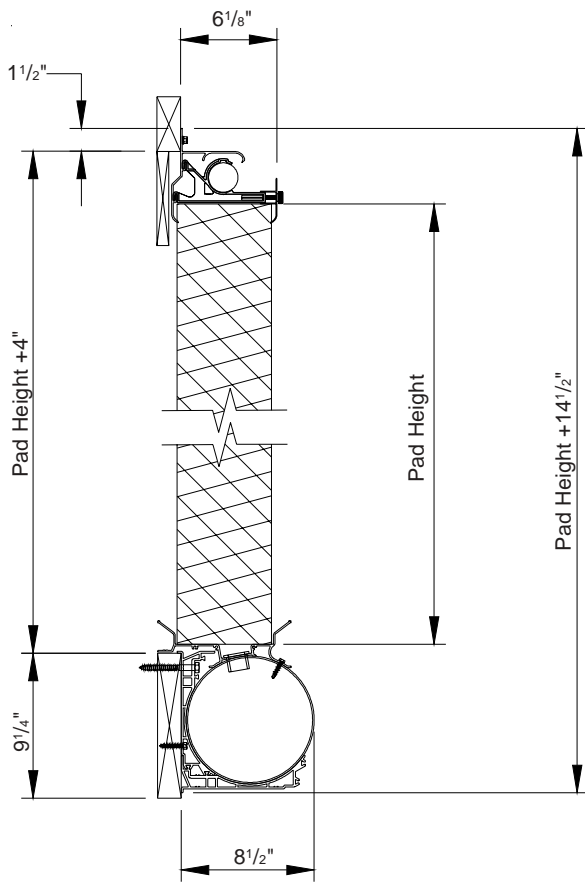

Figure 19A
25) Installation of cooling frame is now complete. Installation should resemble that of **Figure 19A and 19B**. Proceed to next section for plumbing instructions.